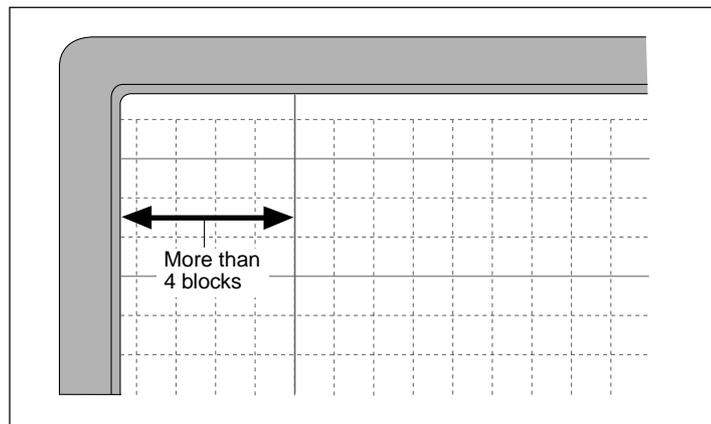

Fig. 1
- 1) Clean the sheet. (See Figure 1.)
As shown in Figure 1, keep clean the width of about 20 cm (maximum) (four ruled lines or more) from the left end of the sheet surface.